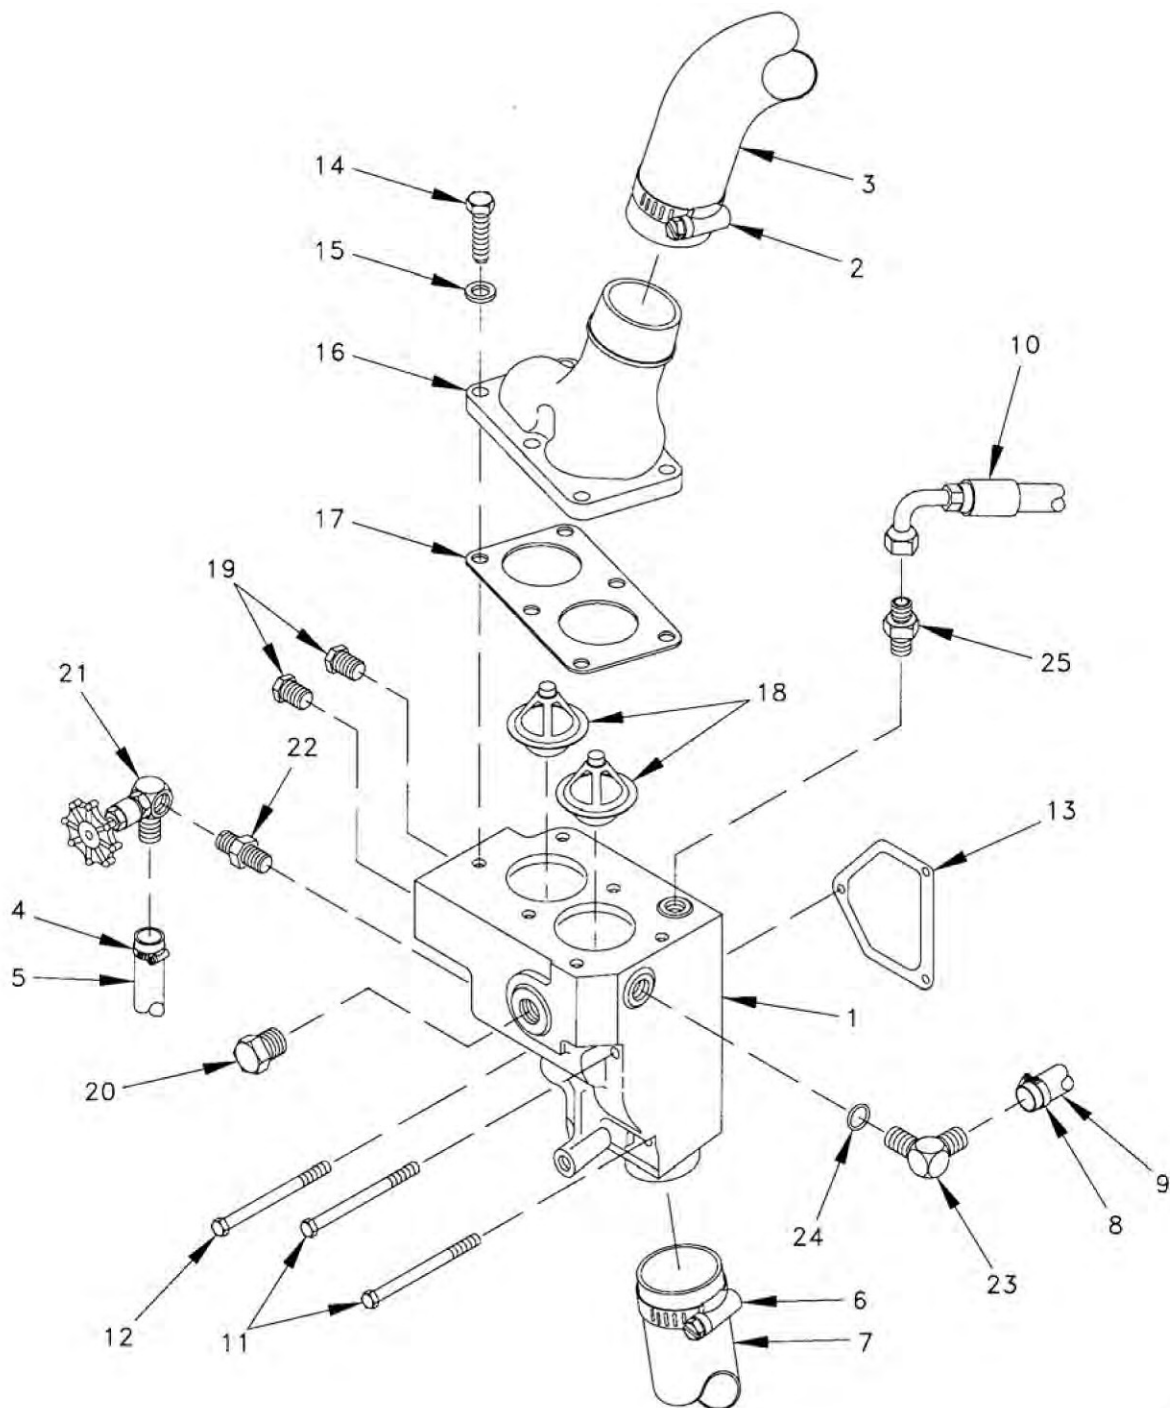

Figure 1. Thermostat Housing.
2. Apply adhesive to threads of connector (Figure 1, Item 25) and install connector (Figure 1, Item 25).
3. Apply adhesive to thermostat housing side threads of elbow (Figure 1, Item 23), and install O-ring (Figure 1, Item 24) and elbow (Figure 1, Item 23).
4. If optional winterization kit is installed, apply adhesive to threads of connector (Figure 1, Item 22), and install connector (Figure 1, Item 22) and valve (Figure 1, Item 21).
5. Apply adhesive to threads of plug (Figure 1, Item 20) and install plug (Figure 1, Item 20).
6. Install two plugs (Figure 1, Item 19).
7. Apply adhesive to both sides of gasket (Figure 1, Item 17). Install two thermostats (Figure 1, Item 18), short end up, gasket (Figure 1, Item 17), thermostat elbow (Figure 1, Item 16), six washers (Figure 1, Item 15), and screws (Figure 1, Item 14). Tighten screws (Figure 1, Item 14) evenly.
1. Install gasket (Figure 1, Item 13), thermostat housing (Figure 1, Item 1), two screws (Figure 1, Item 11), and screw (Figure 1, Item 12). Tighten screws.
2. Connect hose (Figure 1, Item 10).
3. Connect hose (Figure 1, Item 9) and tighten hose clamp (Figure 1, Item 8).
4. Connect hose (Figure 1, Item 7) and tighten hose clamp (Figure 1, Item 6).
5. Connect hose (Figure 1, Item 5) and tighten hose clamp (Figure 1, Item 4).
6. Connect hose (Figure 1, Item 3) and tighten hose clamp (Figure 1, Item 2).